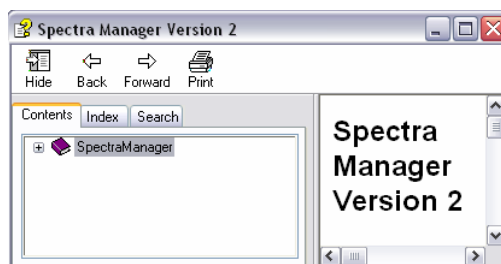
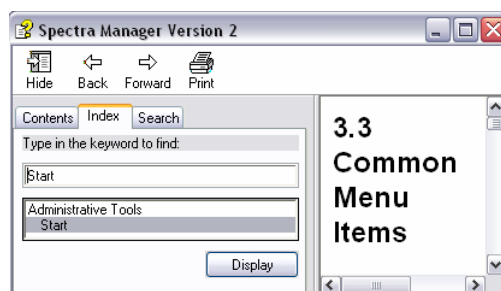

Figure. 2.11 The [Contents] window
Figure. 2.12 The [Index] window
- (2) Select the [Start] menu, and click the <Display> button in Fig. 2.12.
- (3) Selecting the [Administrative Tools] menu, for example, results in comments about it being displayed on the right side of the [Index] window (see Fig. 2.12).
- (4) Click the [Search] tab and enter a word into the column, to find the help topics concerning the word.
- (5) Right-click the icon, [Hide], [Back], [Forward], or [Print] of Fig. 2.11 or Fig. 2.12 and select the [Open all] menu.
- (6) Right-clicking the icon, [Hide], [Back], [Forward], or [Print] of Fig. 2.11 or Fig. 2.12 and select the [Close all] menu and all of the topics will be displayed.
- (7) Click the [Hide] icon of Fig. 2.11 (or Fig. 2.12).
The left side of Fig. 2.11 (or Fig.2.12) is hidden.
- (8) Click the [Print] icon of Fig. 2.11 (or Fig. 2.12).
The comments displayed on the right side of Fig. 2.11 (or Fig. 2.12) will be printed out. The [Print] function can also be performed by right-clicking the icon, [Hide], [Back], [Forward], or [Print] of Fig. 2.11 (or Fig. 2.12) and then selecting the [Print...] menu.